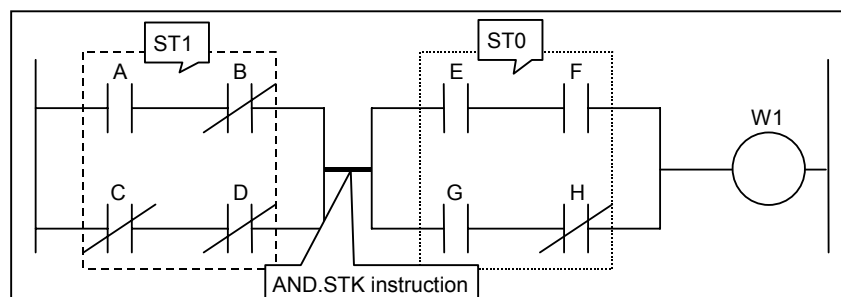

Fig. 4.1.12 (b)
- The AND.STK instruction finds the logical product of the operation result stored in the ST0 bit and that stored in the ST1 bit and sets it in the ST1 bit. The instruction then shifts the register content one bit to the right and puts the resulting logical product into the ST0 bit. Fig. 4.1.12 (b) shows a detailed image of what is shown in Fig. 4.1.12 (a).
- For examples of how the AND.STK instruction is used, see Fig. 4.1.12 (a) and Table 4.1.12.